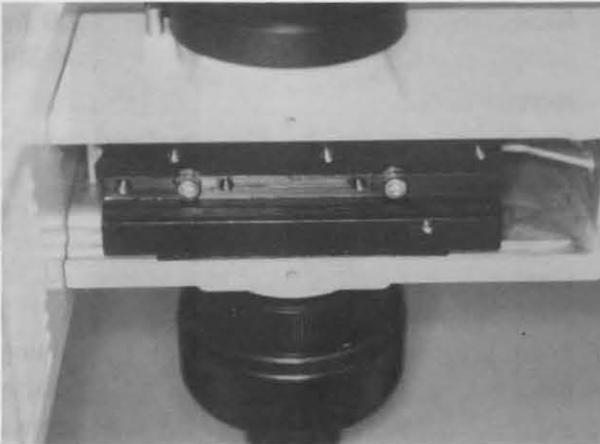

Fig. 4-36
- 4-2-5 Reassemble the inner guide unit prepared in step 4-2-1 above. (See Fig. 4-36)